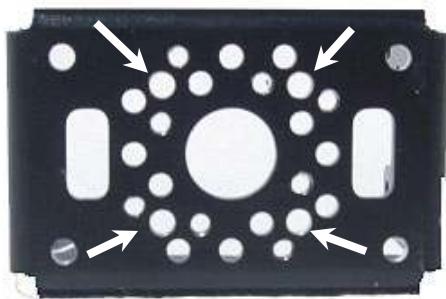
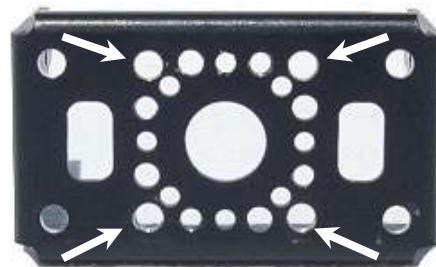

Figure 32
Figure 33
2. Using (4) #4 – .31” countersink screws and lock nuts, install the servo bracket to the single axis adapter plate (using the holes for each type of bracket) as shown in figure 32 and figure 33.